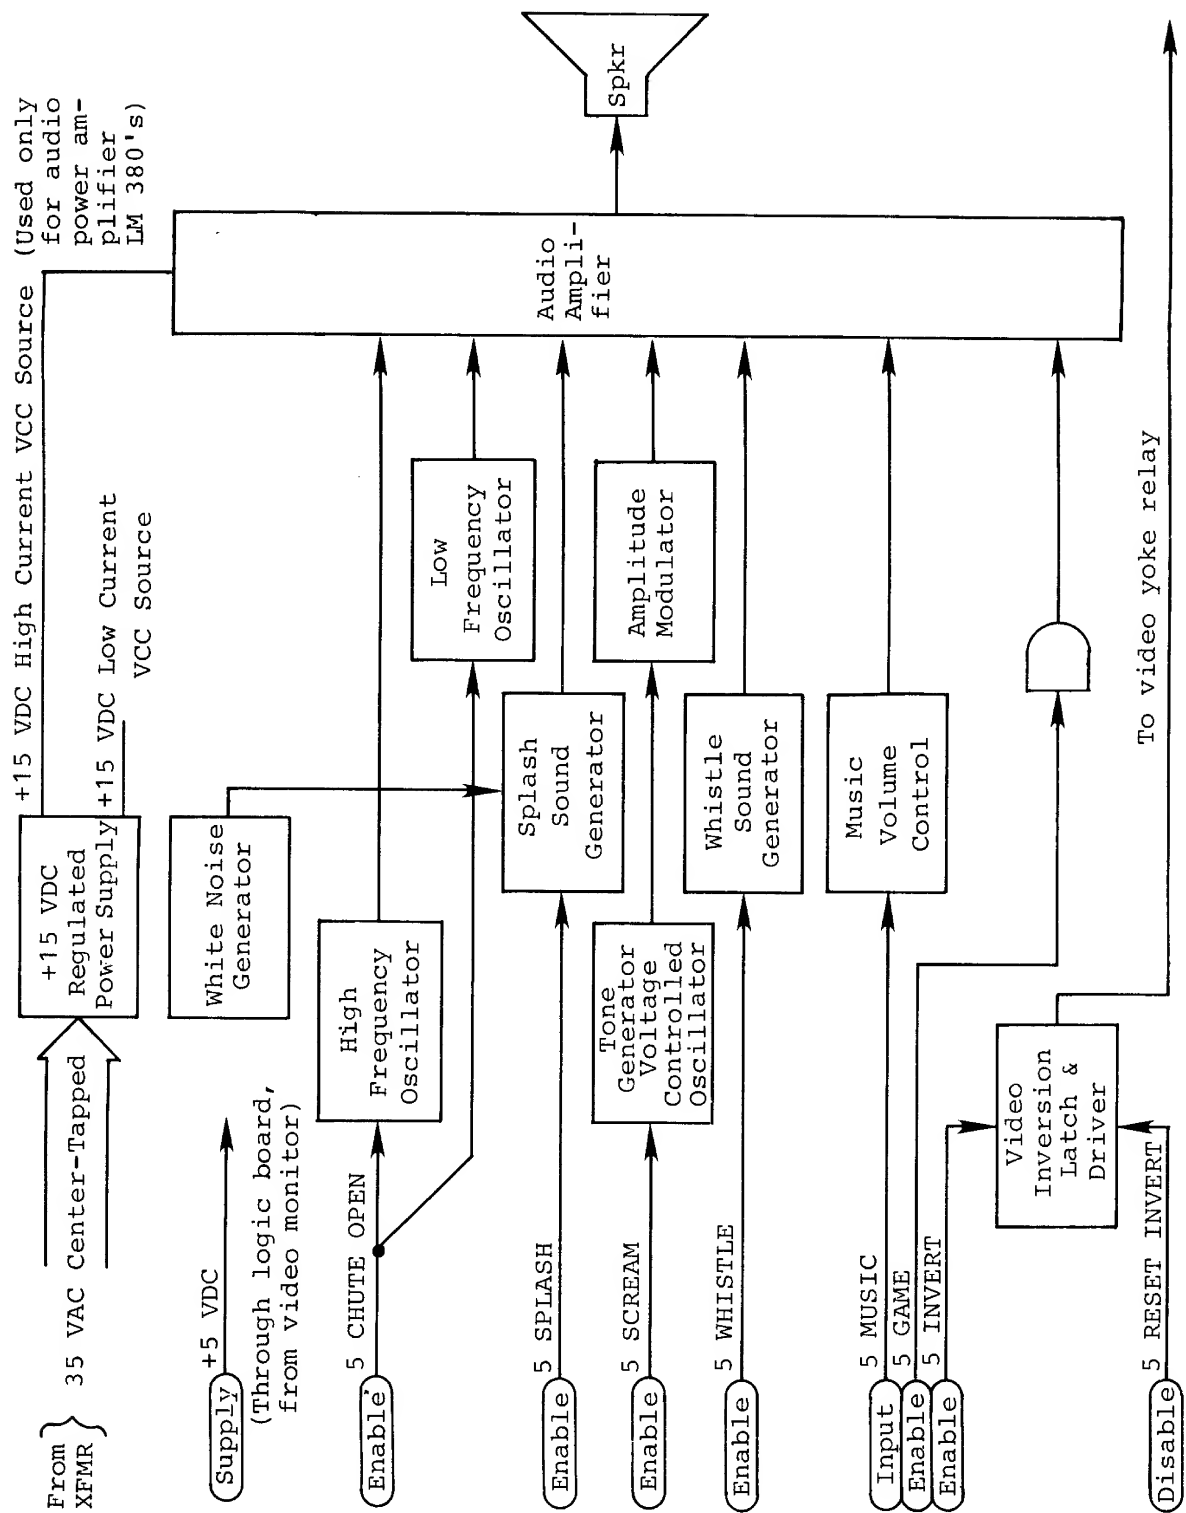

Figure 8: Audio Board Block Diagram
B. Audio Description and Operation (see Figure 8)